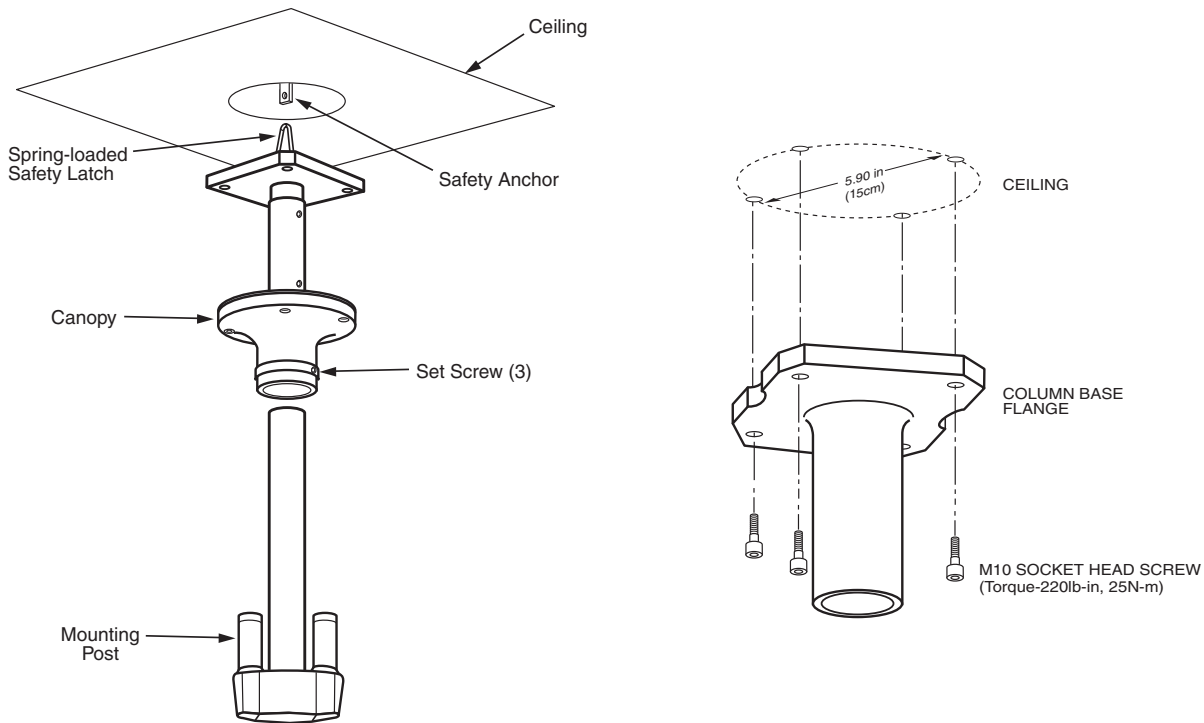

Figure 2
1. The safety anchor (Figure 2) should be attached to the ceiling using the installation hardware specified by the structural engineer.
2. Secure the chain and the attached spring-loaded safety latch (Figure 2) to prevent it from falling into the column tube.
4. Once the chain is engaged into the safety anchor, push up the ceiling column slightly and rotate the spring loaded safety latch 180 degrees (Figure 2), to assure the small diameter of the safety latch being hooked into the safety anchor.
2. Remove the three (3) set screws (Figure 2) from the metal sleeve of the canopy.